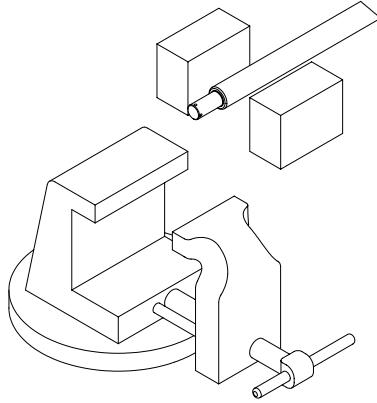

Figure 5-5, Cylinder Shaft
5. Clamp the rod assembly in a soft-jawed vise on the wrench flats, not on the rod surface. If the rod does not have wrench flats, use two pieces of wood on both sides of the rod to prevent damage. (Figure 5-5)